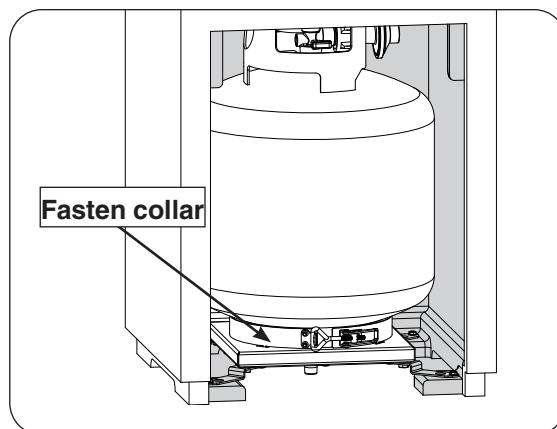
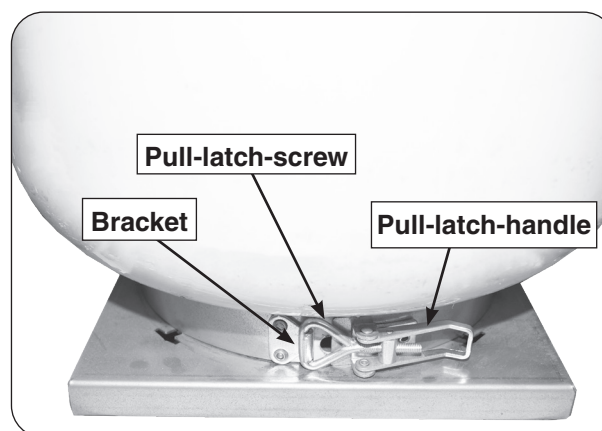

Fig. 18-2 L.P. Cylinder placement
Fig. 18-3 Secure L.P. cylinder
3. The propane cylinder (not included) is to be located inside the base of the unit, via the storage door opening. Insert the cylinder into the tank holder tray and secure it. See Fig. 18-2, Fig. 18-3, and the details below: